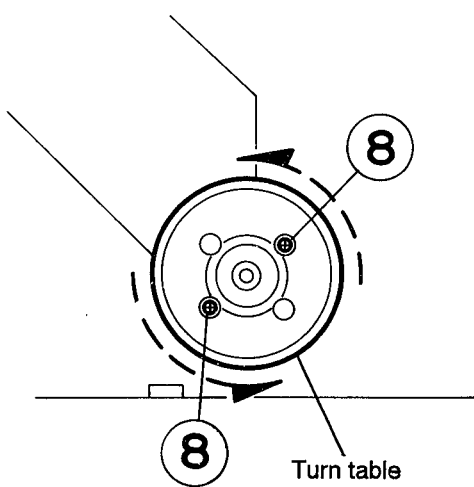

Fig. 4-25
2. While turning the turntable, remove the two screws ⑧ retaining the spindle motor and take out the spindle motor (See Fig. 4-25).